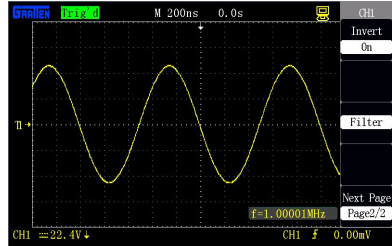

Figure 2-15 Inverse ON
- Press [CH1]→“Inverse”→“ON”, and reverse the displayed signal by 180 degrees relative to zero electric level as reference, as shown in figure 2-15.